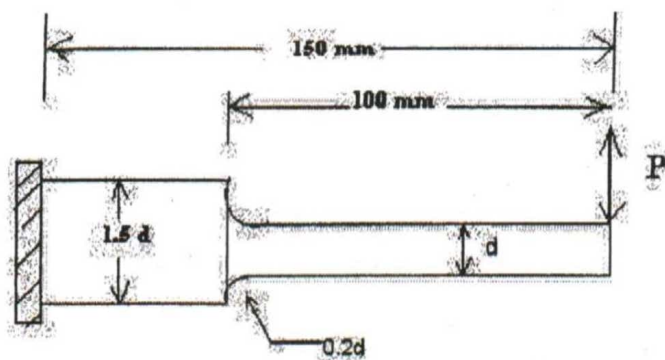

Fig. 1
- (b) A cantilever beam made up of steel 40 C8 ($S_{ut} = 600 \text{ N/mm}^2, S_{yt} = 380 \text{ N/mm}^2$) is shown in figure 1. The force P acting at free end varies from -50 N to +150N. The expected reliability is 90 % and factor of safety is 2. The notch sensitivity factor at the fillet is 0.9. Determine the diameter d at the fillet cross section.